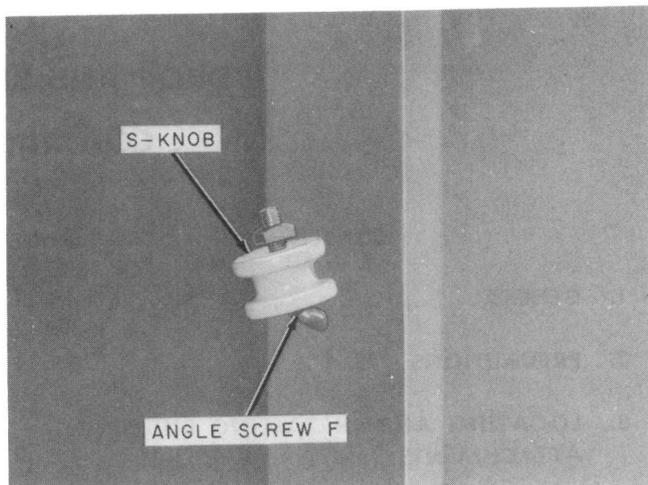

Fig. 1—First House Attachment Installed on Building
- (d) Where practical, the drop wire will make a vertical run to the last building attachment, if (1) the drop wire will have adequate clearance from trees, (2) will not be objectionable if it crosses adjacent property, or (3) will not cross portions of vacant lots on which buildings are likely to be erected.
3.02 Install an S knob and angle screw on the building as shown in Fig. 1.